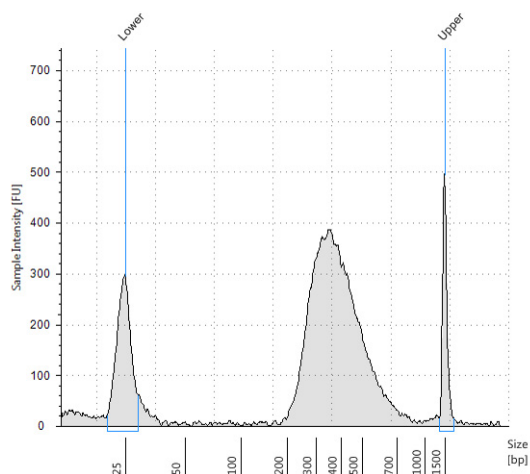
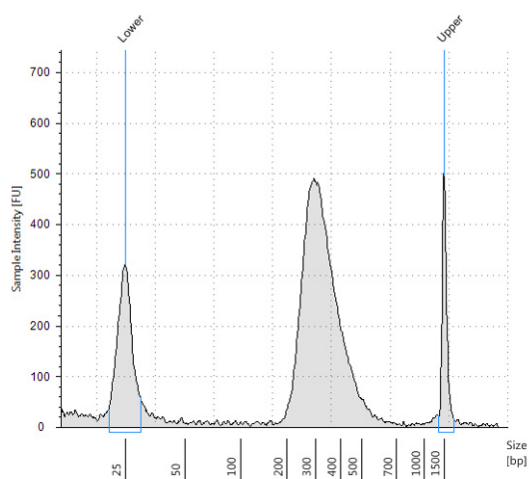
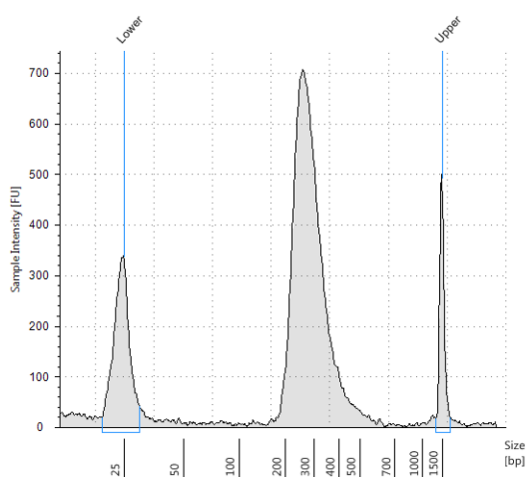

Figure 11 Post-capture library prepared from a high-quality gDNA sample analyzed using a High Sensitivity D1000 ScreenTape assay.
Figure 12 Post-capture library prepared from a typical FFPE gDNA sample analyzed using a High Sensitivity D1000 ScreenTape assay.
Figure 13 Post-capture library prepared from a low-quality FFPE gDNA sample analyzed using a High Sensitivity D1000 ScreenTape assay.
- 13 Verify that the electropherogram shows the peak of DNA fragment size positioned between 200 and 400 bp. Sample electropherograms are shown in Figure 11 (library prepared from high-quality DNA), Figure 12 (library prepared from medium-quality FFPE DNA), and Figure 13 (library prepared from low-quality FFPE DNA).
Using manual preparation of the analytical samples, you can analyze the DNA samples on Agilent 2100 BioAnalyzer, Agilent 5200 Fragment Analyzer, or Agilent 4200/4150 TapeStation. Electropherograms obtained using one of these other analysis platforms are expected to show fragment size profiles similar to those shown for the Agilent 4200 TapeStation (see Figure 11 through Figure 13). Table 67 includes links to assay instructions.